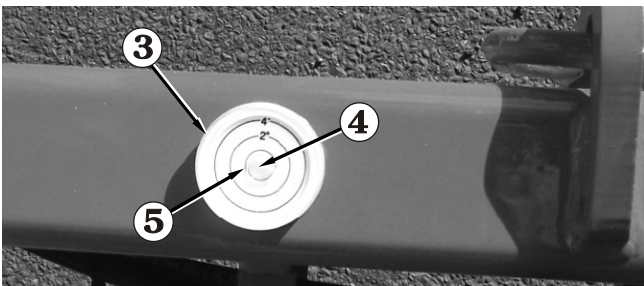

Figure 8.22
3. Visually check the bubble level **3** to determine which stabilisers must be further extended to level the platform (see Figure 8.22).
4. Lower the appropriate stabilisers just enough to center the bubble **4** (see Figure 8.22). When the **Lift Indicator Light 6** (see Figure 8.23) comes on, the platform can be safely raised.